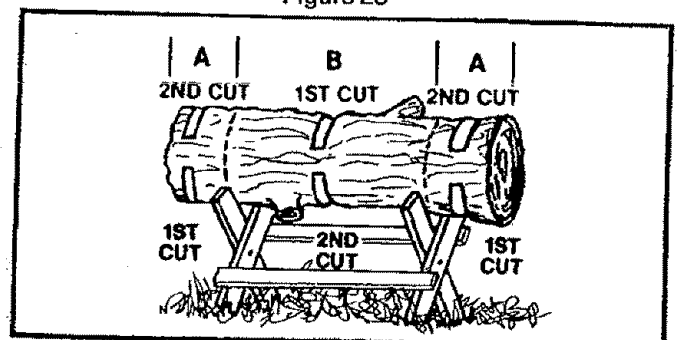

Figure 26
5. BUCKING — USING A STAND (Figure 26):